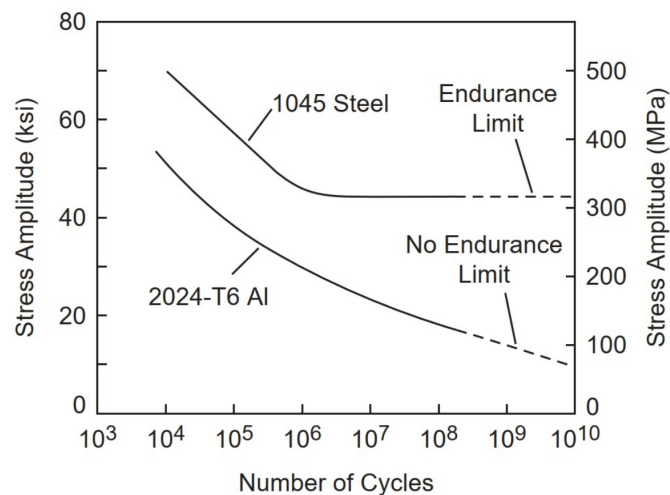

Figure Q5 (b)
- (b) Figure Q5 (b) shows the S-N curve for 1045 steel and 2024-T6 aluminium. Explain the foundation of the S-N approach in fatigue for metallic materials. Your explanation should include: